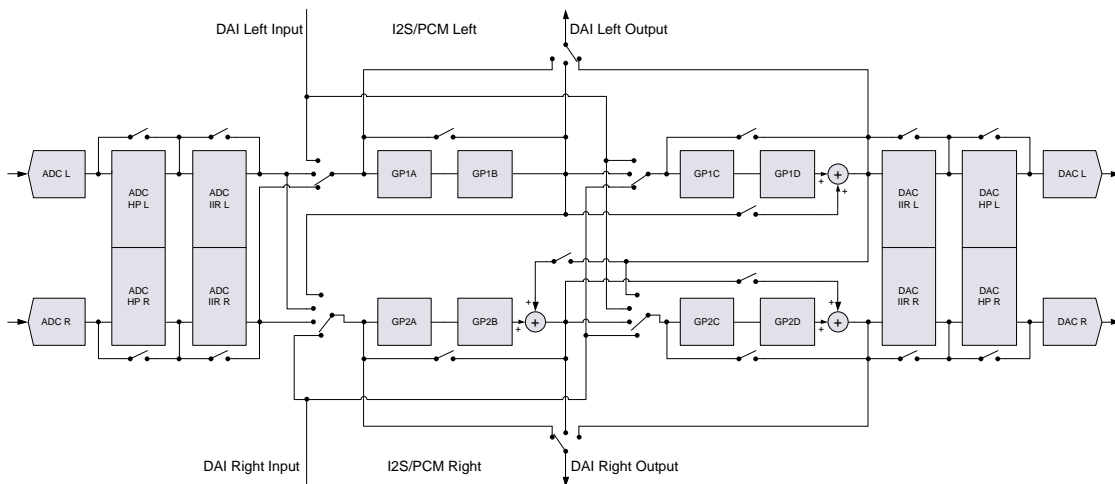

Figure 16: Digital signal processing engine (simplified block diagram)
A digital high pass filter for each DAC channel is implemented (configurable by control DAC_HPF_F0 (address 0x14, Table 61) that can be enabled via control DAC_HPF_EN (address 0x14, Table 61, see blocks 'DAC HP' in Figure 16). After Reset, the high pass filters for both channels are enabled by default.
filtering (optionally enabled) removes any signal DC offset (see blocks 'ADC HP' and 'DAC HP' in Figure 16) and offers 5-band equalisation during recording and sound playback.
Alternatively it can provide dedicated voice band filtering at samples rates ≤ 16 kHz (see blocks 'ADC IIR' and 'DAC IIR' in Figure 16).
An additional general purpose (GP) filter engine offers up to eight second-order biquad filter stages with configurable 16-bit coefficients, and supports flexible digital audio routing and mixing arrangements. Figure 16 shows some possible routings (a subset of the available settings) for filter blocks GP1A to GP2D with the related control registers. Typical use cases with example configurations are explained in the section 8.3.
To allow user-specific sound control, the recording path includes a programmable 5-band equaliser (combined in the ADC IIR blocks in Figure 16). This is enabled using control ADC_EQ_EN (address 0x13, Table 60).